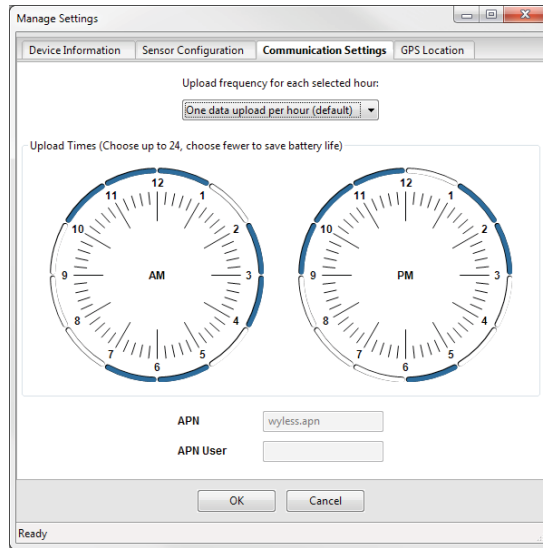

Figure 7 Communication Settings tab (EM60G only)
- Navigate to the Communication Settings tab (Figure 7).